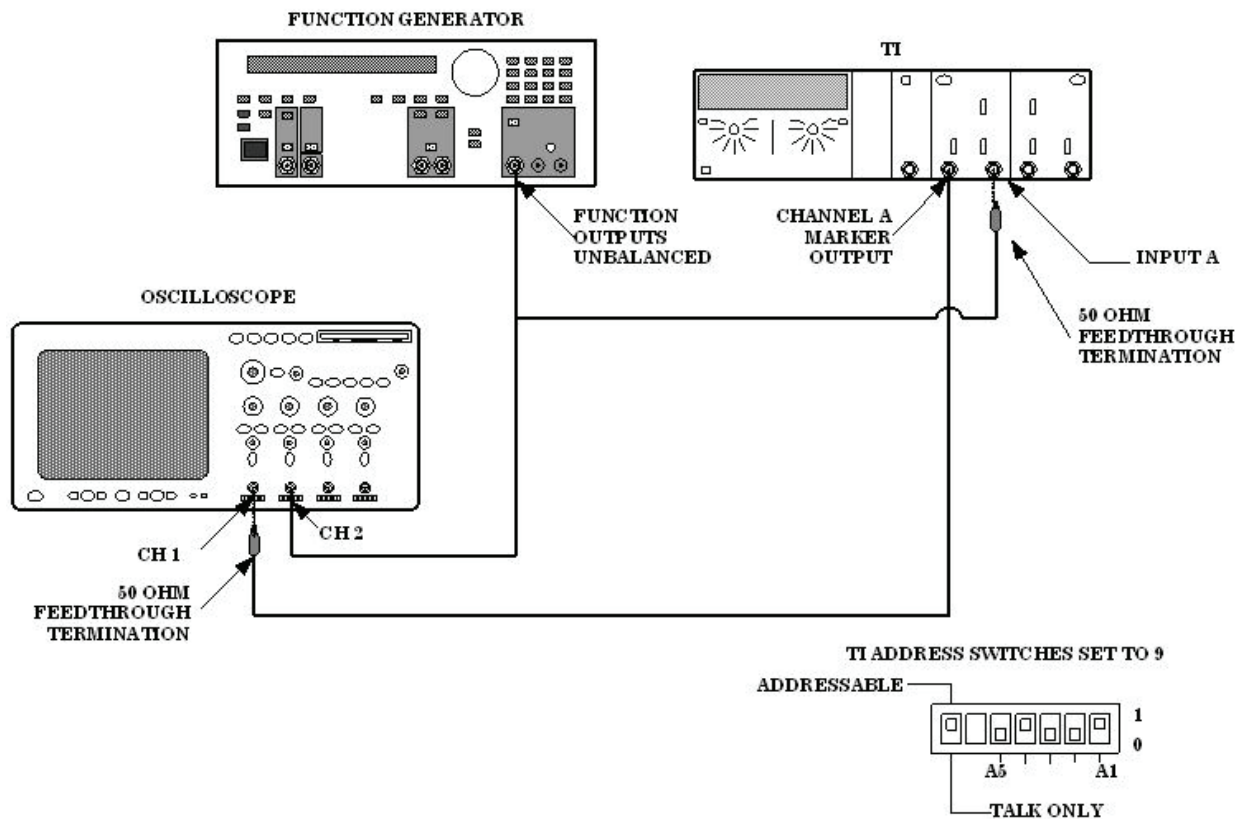

Figure 2. Remote trigger level - equipment setup.
- (1) Connect equipment as shown in figure 2.